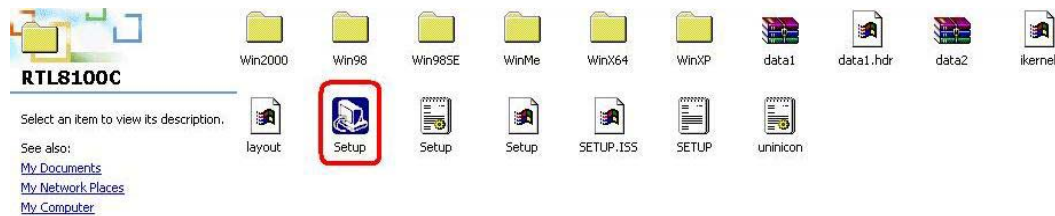

Figure 6-13: Locate the Setup Program Icon
Step 3: Locate the **Setup** program icon (**Figure 6-13**).
Step 4: Double click the **Setup** program icon in **Figure 6-13**.